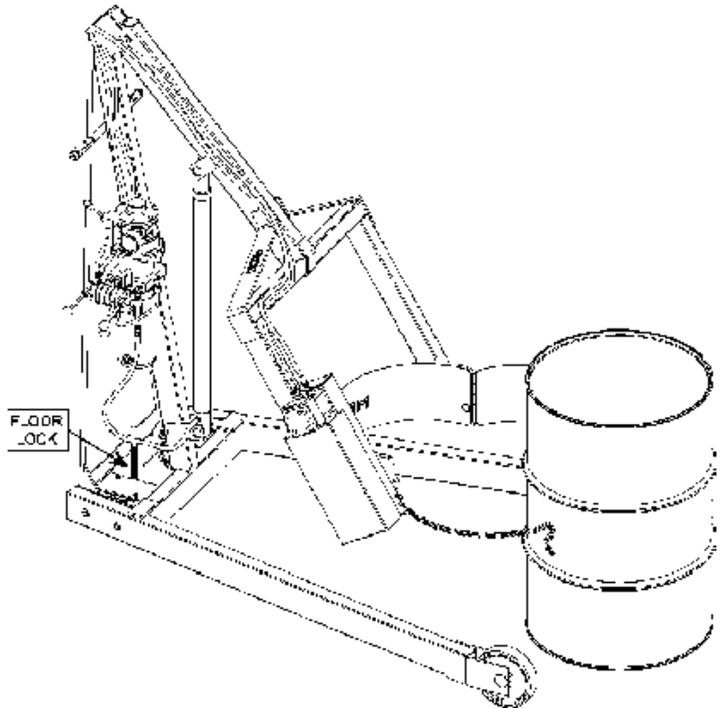

Figure 3.1
The screw-down floor lock is located on the base of the tower (figure 3.1). Turning the floor lock clockwise until it locks in the down position activates the floor lock. When the floor lock is activated it prevents unwanted free wheeling of the unit. Floor conditions determine the effectiveness of the floor lock. The operator should verify its holding action before depending on it to hold.
- 2.) Using the "LIFT" control as described in "Machine Description - Controls" (page 3) , position the drum holder assembly with the back band at the middle of the drum. (Figure 3.1). With the ratchet plate swung open and the cinch chain hanging from the chain hook, push the unit until the back band rests firmly against the drum. Some adjustment to the tilt angle of the saddle may be necessary to ensure band fits flush on the drum.